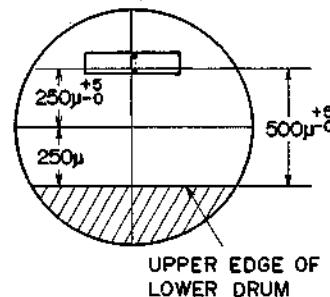

Fig. 4-3
- 2) Adjust the microscope until the upper edge of the lower drum is 250μ below the center of the microscope scale as shown in Fig. 4-3.